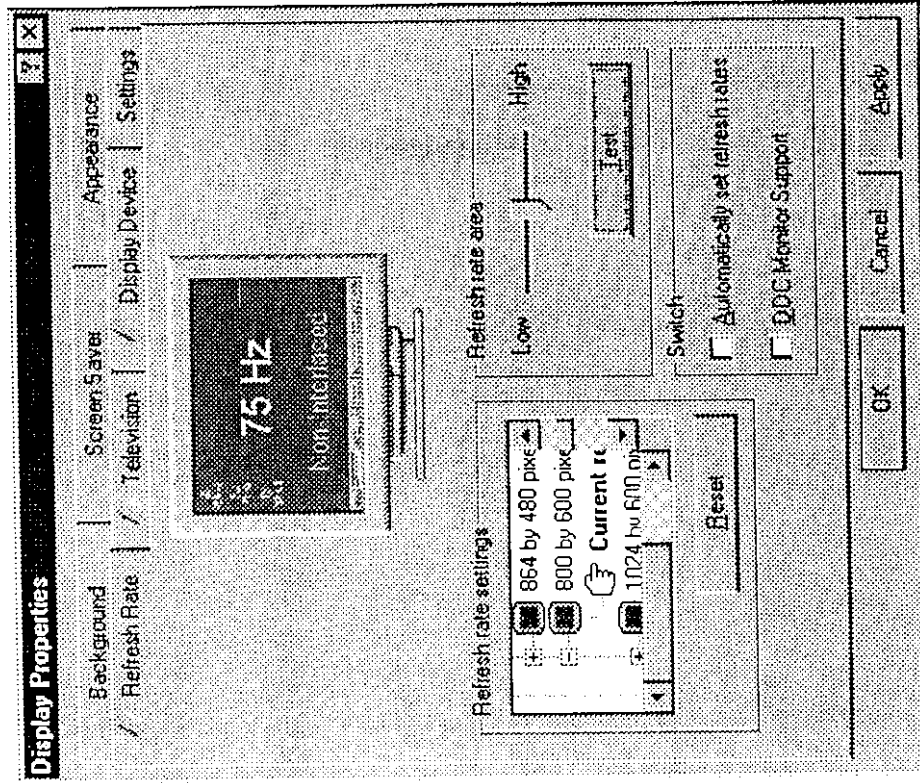

Figure 3-8.
9. SELECT the "K" button to close the "Device" window and to select the "Color Palette", "esktop Area", and "Refresh Rate" of your choice under the Trident accelerated driver (refer to Figure 3-8).